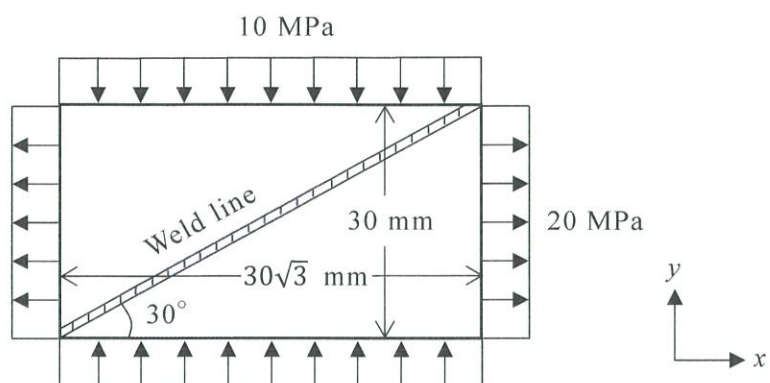

Figure 1-1
I. As shown in Figure 1-1, a rectangular plate of dimensions  $30 \text{ mm} \times 30\sqrt{3} \text{ mm}$  is formed by welding two triangular plates. The rectangular plate is subjected to a tensile stress of 20 MPa in the  $x$ -direction and a compressive stress of 10 MPa in the  $y$ -direction. Since the width of the weld line is sufficiently thin and also the weld line has the same Young's modulus and Poisson ratio with those of the two triangular plates, the stress field of the rectangular plate is assumed to be uniform. The Young's modulus, the Poisson ratio, and the thickness of the rectangular plate are 192 GPa, 0.2, and 1 mm, respectively.
- (1) Obtain the inner force vector acting on the weld line.
- (2) Obtain the normal stress acting perpendicular to the weld line.